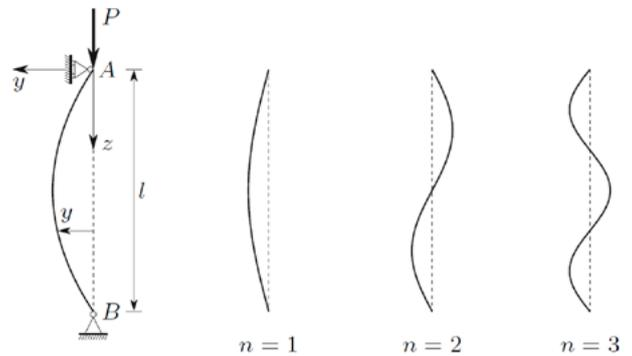
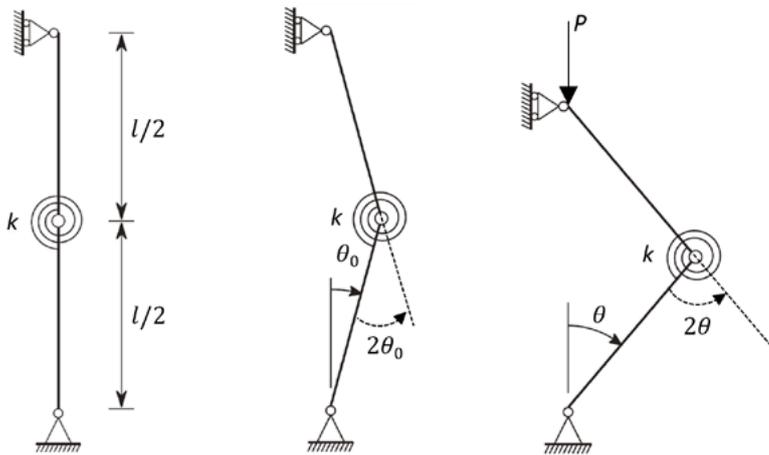

Figure 2 – Buckling modes for a pin-ended strut².
Figure 6 – Idealized system with a joint with a spring stiffness².
For an idealized “perfect” pin-ended strut (Figure 2), the theoretical critical load that leads to a sudden instability of the system can be obtained by solving a second order differential equation¹. In the process, the displacement “y” along “z” is established using a sinusoidal function, which later leads to the following definition:
►23 The Eurocode introduces an initial plateau (limited by λ_0 in Figure 5) for the design of imperfect struts. According to clause 6.3.1.3 of EN 1993-1-1, the plateau is determined by $\bar{\lambda} = 0.20$, where $\bar{\lambda} = \sqrt{A\sigma_y/P_{cr}}$ (the Eurocode terms are $\bar{\lambda} = \sqrt{Af_y/N_{cr}}$). This plateau makes an allowance for strain hardening in short columns⁶. For values above the specified slenderness for the plateau, second-order P - δ effects are always relevant for members. The differential equation for the “perfect” struts in Figure 2 can be adapted to consider an **initial bow imperfection**. If the formulation for a “perfect” problem is rather complex, including an initial imperfection would certainly be more so. However, to demonstrate the concept of the effects of an initial bow imperfection, a simplified model can be adopted, where the system from Figure 2 is replaced by an idealized problem having a joint with a spring stiffness as shown in Figure 6^{2,6}.